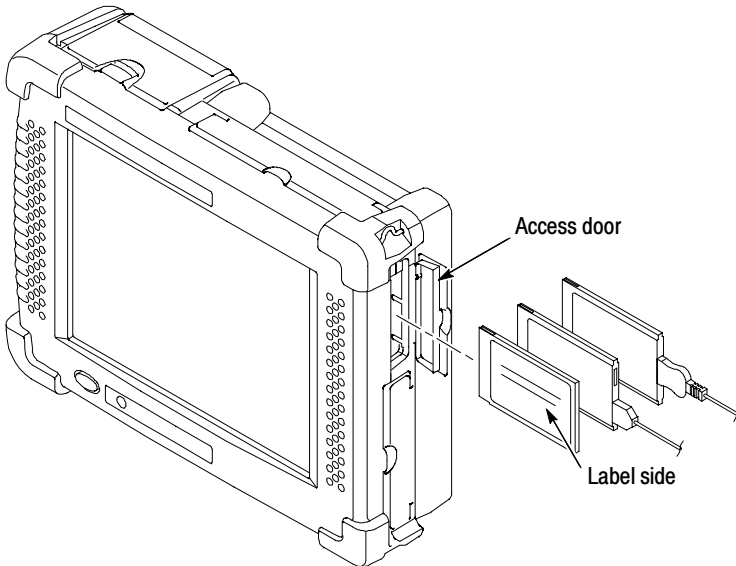

Figure 3-2: Installing a PC card
2. Open the access door on the right side of the analyzer. See Figure 3-2.